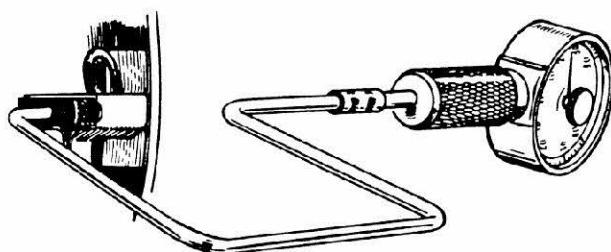

FIGURE 39a. MEASURING BRUSH SPRING TENSION
**Inspection for Brush Spring Tension:** Measure brush spring tension with a tension meter (Figure 39a). Push the brush into its holder and take the reading just as the brush slightly projects from the brushholder. On a new brush the spring tension should be 49 to 59 ounces (1.37—1.65 kPa) for RCCK engines and 29 to 38 ounces (0.81 to 1.06 kPa) for MCCK engines.